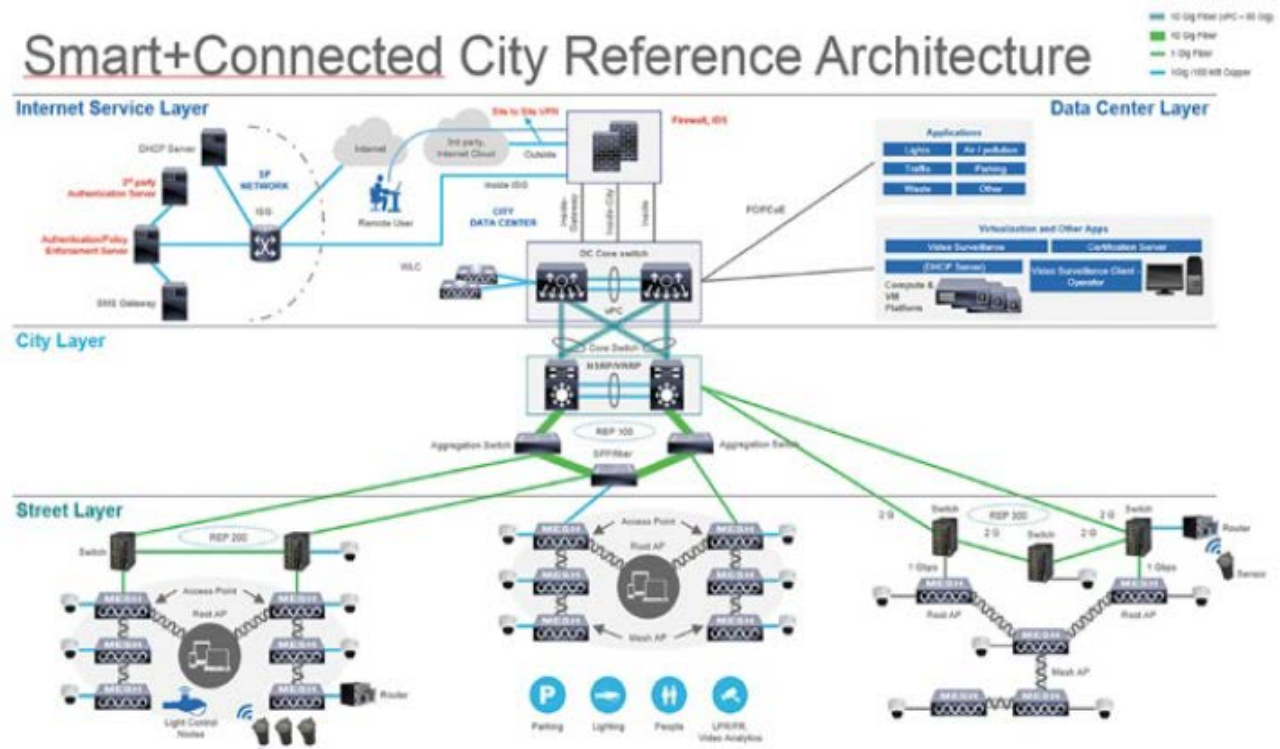

Figure 5.15 Key Smart and Connected Cities Reference Architecture
- Figure 5.15 shows a reference architecture, with specific security elements highlighted. Security protocols should authenticate the various components and protect data transport throughout.